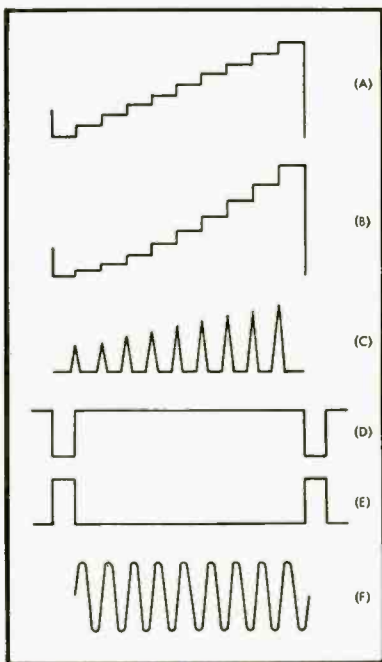

Fig. 2
The block diagram of Fig. 1 indicates how the nonlinearity "meter" works. The unit first generates a step or staircase wave such as that shown at (A) in Fig. 2. The entire step wave is repeated at an audio frequency which is low enough so that the amplifier to be tested can reproduce the straight sides of the steps. The step wave gives a series of amplitude increments which ideally are equal. The step-wave output of the tested amplifier may then be viewed on an oscilloscope. When the amplitude of each step on the oscilloscope is measured, it is easy to see where in the amplitude range nonlinearities occur. The nonlinear scope presentation of (B) in Fig. 2 is an example. Obviously the output amplitude increase for constant input amplitude increases is greater as the absolute amplitude becomes greater in the wave at (B)—or, to look at it another way, compression is taking place at lower amplitudes.
fore, the output step wave is differentiated, a process of passing the step wave through a high-pass filter, usually simply a series capacitor and a shunt resistor. If the cutoff frequency of the differentiator is made sufficiently high with respect to the repetition rate of the step wave, the voltage will fall back to the zero axis during each horizontal stair "tread" and the result will be a series of sharp spikes, each with an amplitude above the zero axis the same as that of the vertical part of the step which produced it. The result of the differentiation of a nonlinear staircase is shown at (C) in Fig. 2. The spike train can be amplified as much as is desired and since each spike is much larger than each stair rise it represents, measurements of the amplitude linearity can be made more easily and accurately. The ideal result is, of course, a straight line increase across the tips. A line outlining the tips at (C) in Fig. 2 would be curved and would show the distortion.